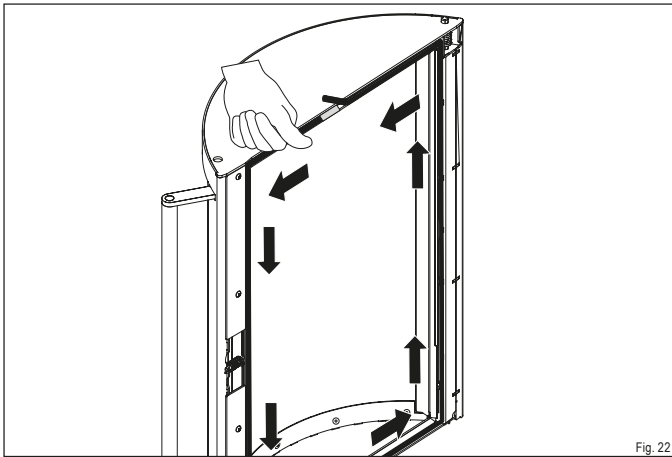
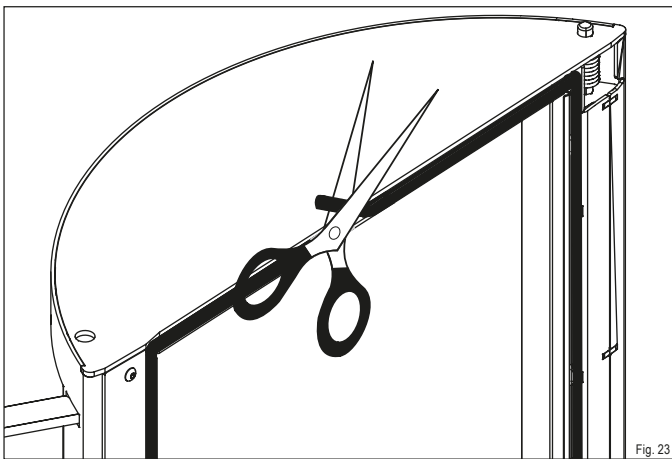

Fig. 22
Fig. 23
- ▶ Start installing the seal at the middle of the rail at the top of the firebox door. Push the seal evenly into the rail (Fig. 22). Allow the end to protrude slightly and cut off the seal flush (Fig. 23).